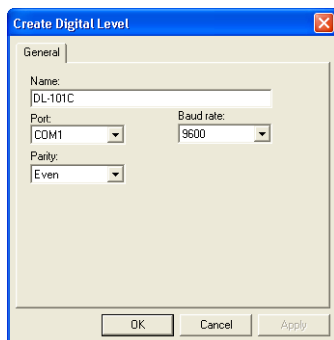

Figure 2-30. Digital Level Properties
- Click the **Create Digital Level** dialog box (Figure 2-30) and enter the following information.